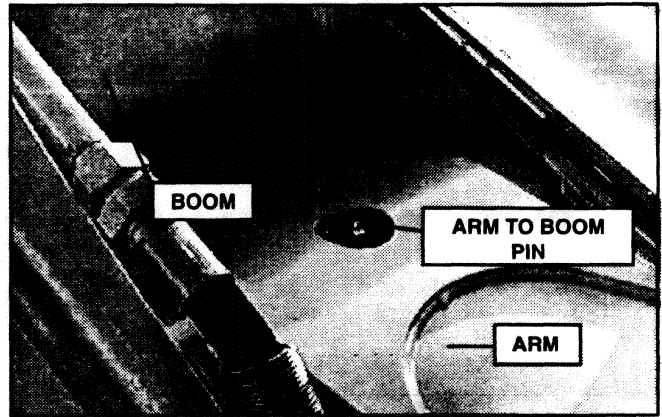

FIGURE 4.105
6. Arm to Boom Pin. See Figure 4.105.